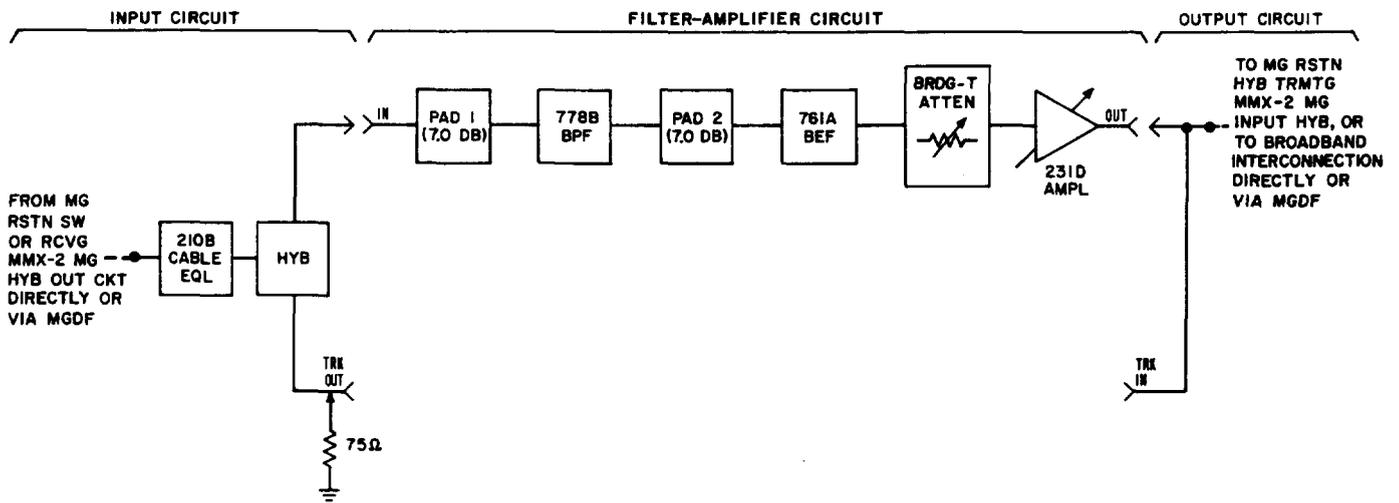

Fig. 2—Mastergroup Connector—Block Diagram
2.02 E-W and W-E markings identify the two directions of transmission. Each plug-in module contains the apparatus for one direction of transmission. The apparatus (Fig. 2) includes a 778B bandpass filter, a 761A band-elimination filter, two 7-dB pads, a variable bridged-T attenuator, and a plug-in 231D amplifier.
3.01 Figure 2 is a block diagram of the MMX-2 to MMX-2 connector circuit for one direction of transmission. A like circuit is provided for the other direction of transmission. Functionally, the